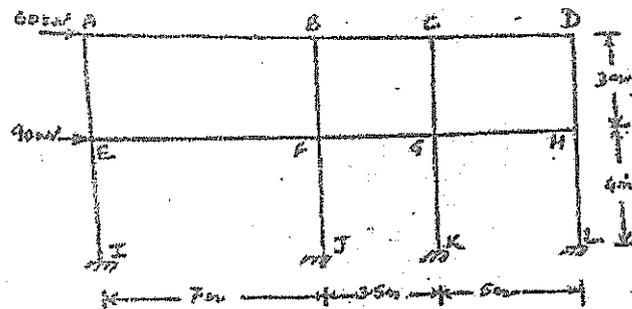

Figure 7
4. A two span two storey indeterminate frame is shown in Figure 7. If the wind loads of 60 kN and 90 kN are acting at A and E respectively, analyse the frame using portal method to calculate horizontal shears, moments at the ends of columns, moments at the ends of beams and shear in beams.